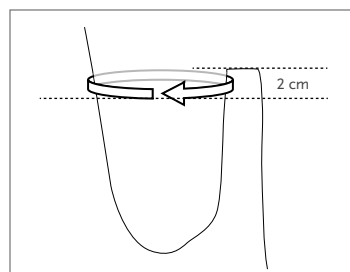

Fig. 1
1. Measure the circumference 1-2 cm below the level of ischial tuberosity (see fig.1).